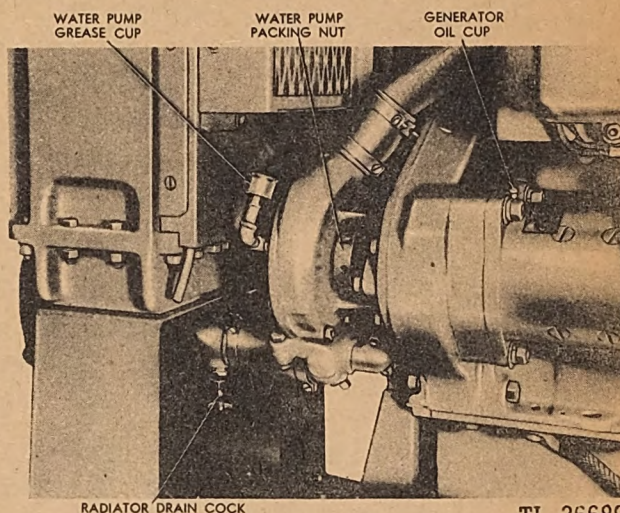

Fig. 37. Water Pump Packing Nut
(5) Turn the grease cup on the water pump one-half turn. (See Figures 37 and 35.) Keep the cup filled with WP grease. If the water pump leaks, tighten the packing nut with the spanner wrench as shown in Figure 37. Tighten the nut just beyond the point where the leaking stops and then back it up a little. If the packing nut is tightened too much, this will cause the shaft to wear.